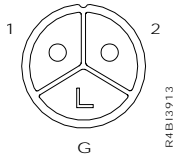

Figure 4. Receptacle Connector for Russellstoll 3913U-2 or 3743U-2
- Receptacle: Russellstoll 3743U-2 (Figure 4)
- Connector housing: Russellstoll 3913U-2 (Figure 4)